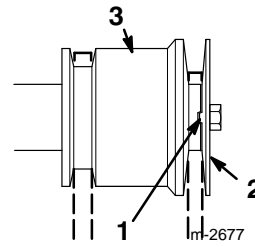

Figure 29
14. Install the engine pulley sheave, washer, lock washer, and crankshaft screw. Make sure that the indexing rib in the engine pulley sheave aligns with the indexing notch in the center engine pulley. Also, make sure to not pinch the traction belt (Fig. 29).
Make sure that the indexing rib in the engine pulley sheave aligns with the indexing notch in the center engine pulley. Also, make sure not to pinch the drive belt (Fig. 29).